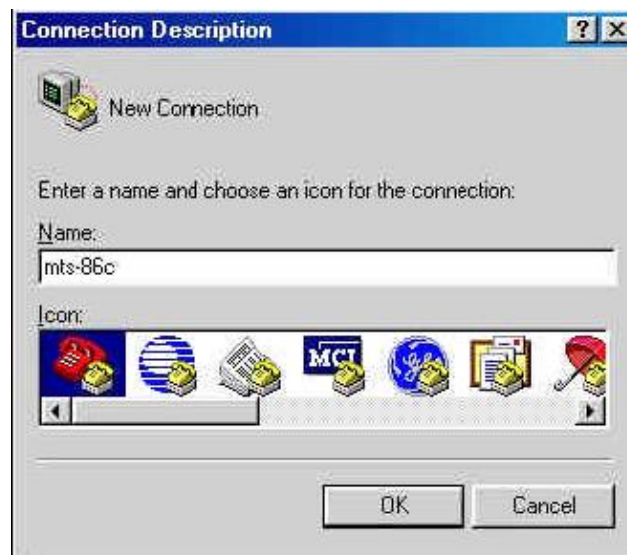

Fig. 1.12 Hyper terminal window
- Enter a name and choose an icon for connection as shown below (Fig. 1.12) press ok.